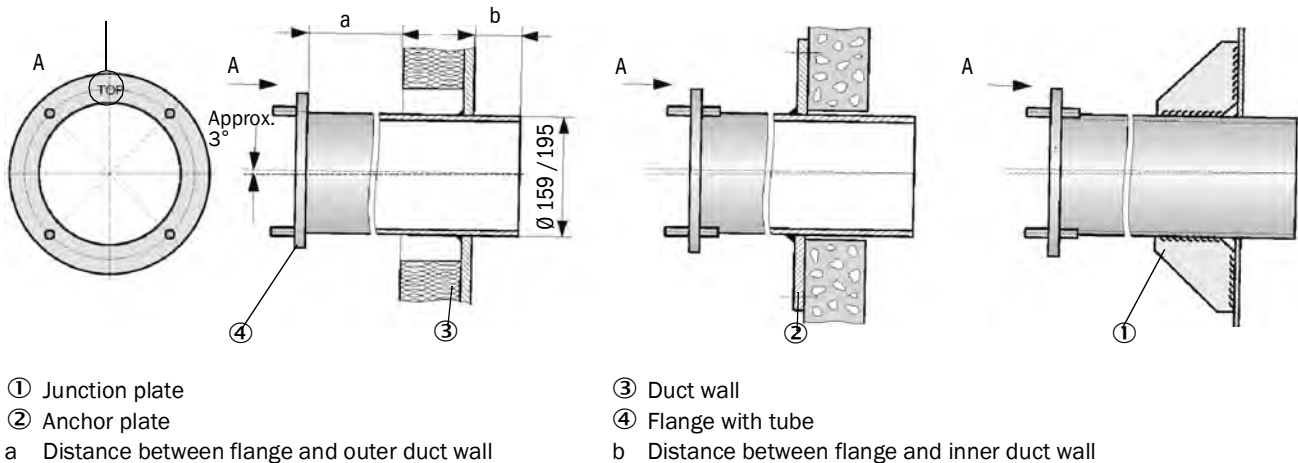

Fig. 10: Fitting the flange with tube
- 5 Weld the flange with tube on using an anchor plate for brick or concrete stacks, insert junction plates for thin-walled ducts (see Figure 10).